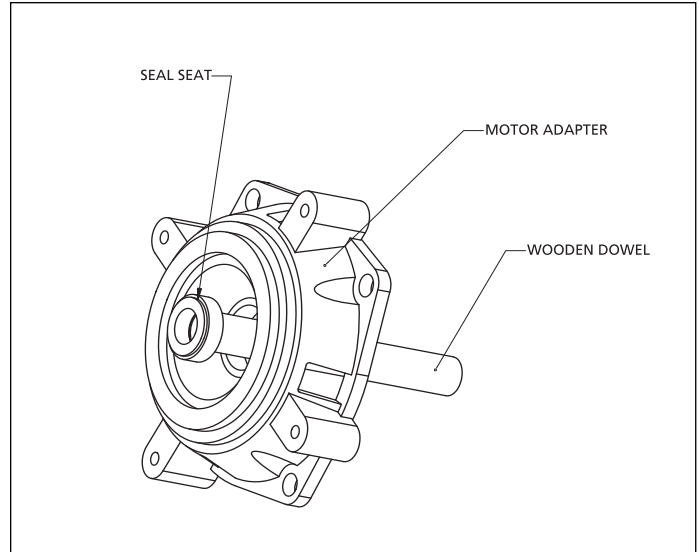

Figure 5 - Seal Seat Removal
5. Use a wooden dowel to push out the seal seat (Ref. No. 4) from the body adapter (Ref. No. 2) (See Figure5).